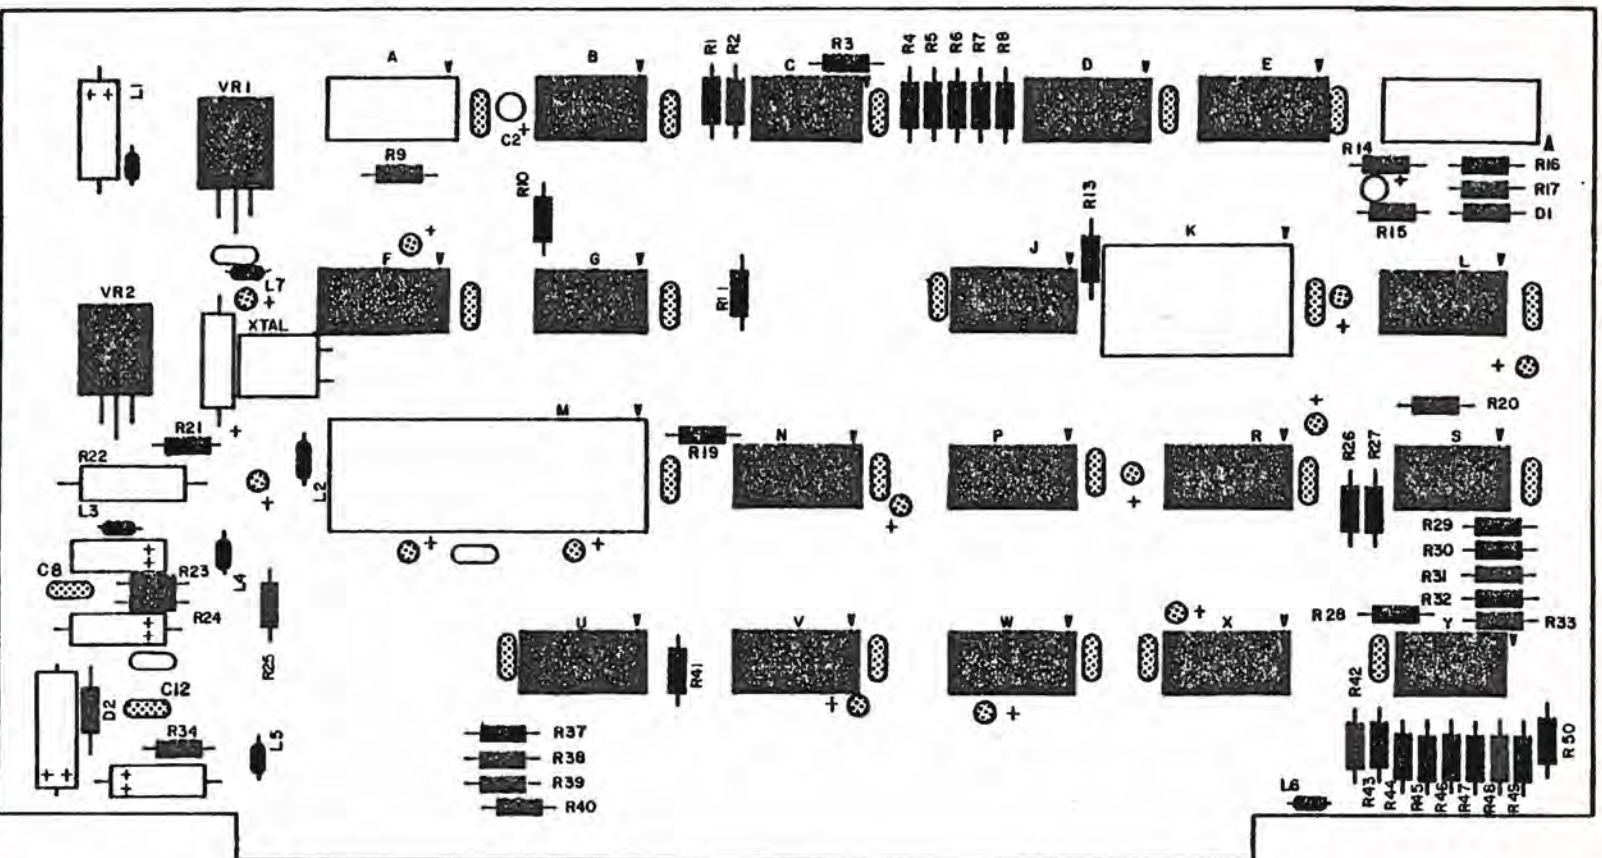

Figure 5-18 Suppressor & Ceramic Disk Capacitor Installation
- c) When inserting dipped tantalum capacitors, leave a small amount of lead above the board. Since the location of these capacitors is not designated by a letter/numeral code, it is easiest to mark off each suppressor capacitor on Figure 5-18 as it is installed.